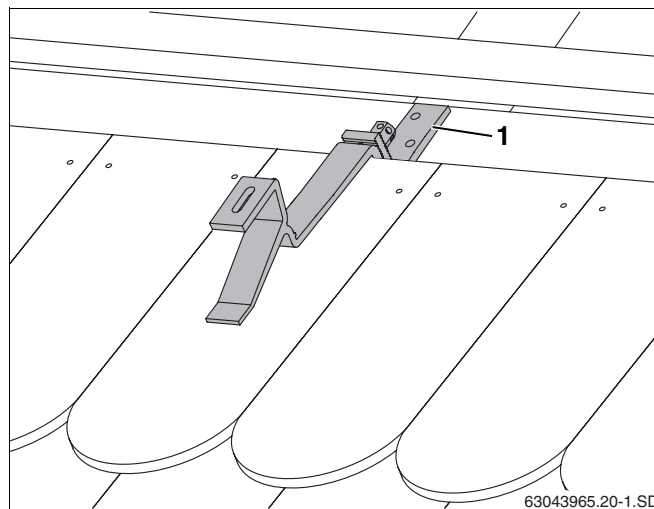

Fig. 18 Fitted roof hook
- ▶ Push the lower part of the hook down until it lies on the joist or on the board (Fig. 18, **Item 1**).